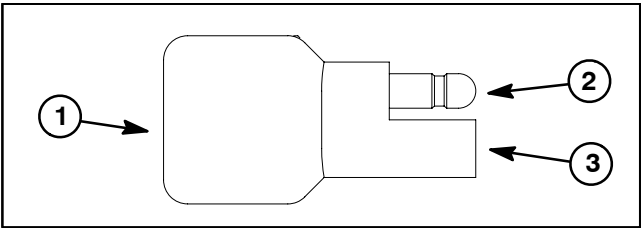

Figure 12
- 5. The diode (Fig. 12) can be tested using a digital multimeter (diode test or ohms setting) and the table in the right column.